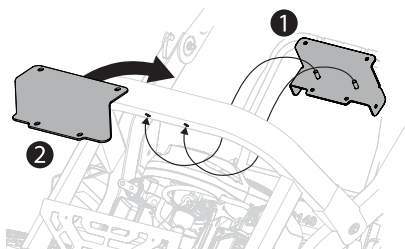

Figure 5
- Working from the inside out, align keeper bracket (689-02519) with upper rear tube of tractor frame, sliding weld pins into existing holes on underside of tube. See (1) in Figure 5.
- Working from outside in, align upper bracket (789-04458) with upper rear tube of tractor frame and keeper bracket, aligning upper and lower holes of both brackets. See (2) in Figure 5.